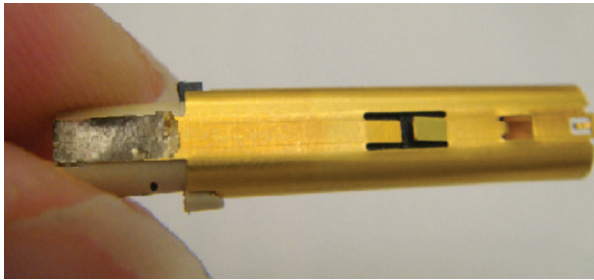

Figure 62: Locking outer body onto insulators
22. Slide the outer body onto the rear insulators at the end of the cable (Figure 62). **Note:** Unlike the two-piece outer body for the plug, the receptacle's outer body is only one piece.